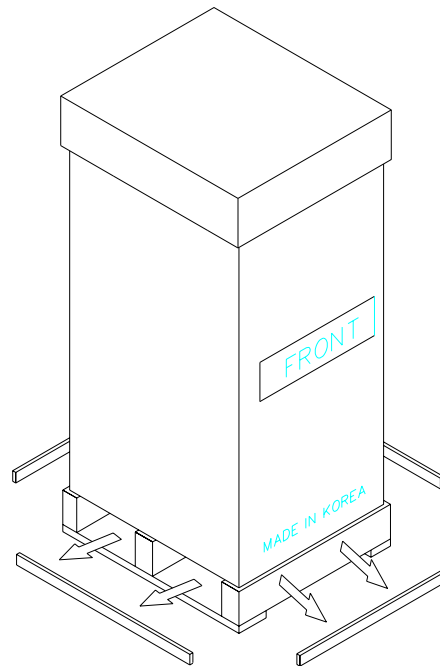

Fig. 6.2
- 3) Use an appropriate tool to remove the nails from the pallette. (refer to Fig. 6.2)